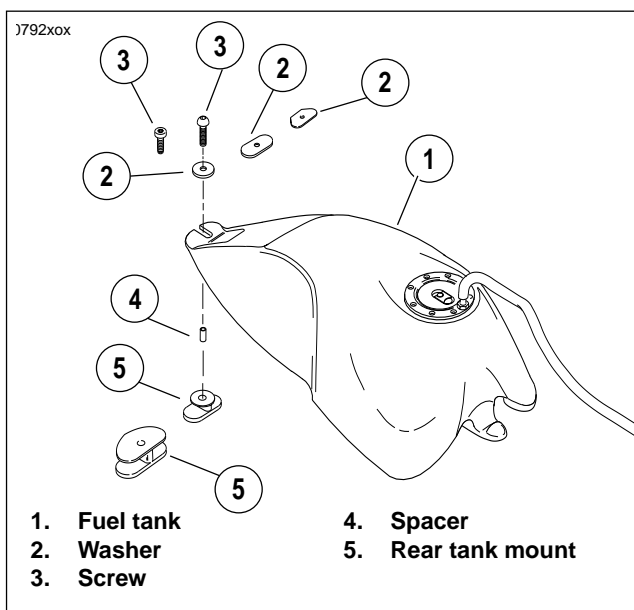

Figure 1. Original Fuel Tank Mounting Arrangement
See Figure 1. Vehicles being serviced will have varying combinations of tank mounting parts. Once removed, Items 2, 3, 4 and 5 are to be discarded.
4. See Figure 1. Remove and discard fuel tank mounting screw (3) and washer (2).
5. While securely holding fuel tank, carefully slide rear tank mount (5), with spacer (4), to the rear of the vehicle and away from the tank. Discard mount and spacer.